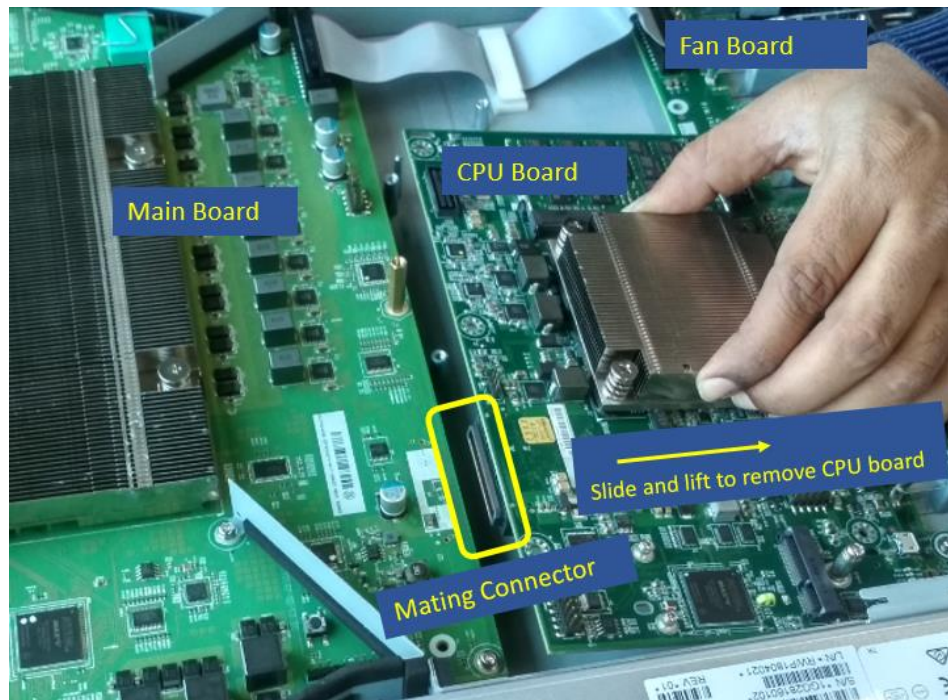

Figure 3-7: CPU Board Removal
7. Slide backwards towards fan FRU's to disengage from connector. Lift and remove CPU board (figure 3-7)